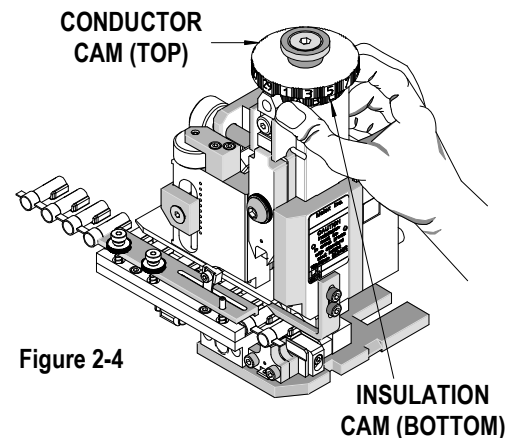

Figure 2-4
5. The desired crimp height can be achieved by rotating the conductor adjusting cam. See Figure 2-4. There are 14 cam positions, with increments of 0.015mm (.0006") between positions (a total adjustment of 1.80mm). The "A" setting is the loosest (highest) crimp height and the "N" setting is the tightest (lowest). If crimp height is not within specification, rotate the adjusting cam, crimp another solder slug, and measure until crimp height is in spec.